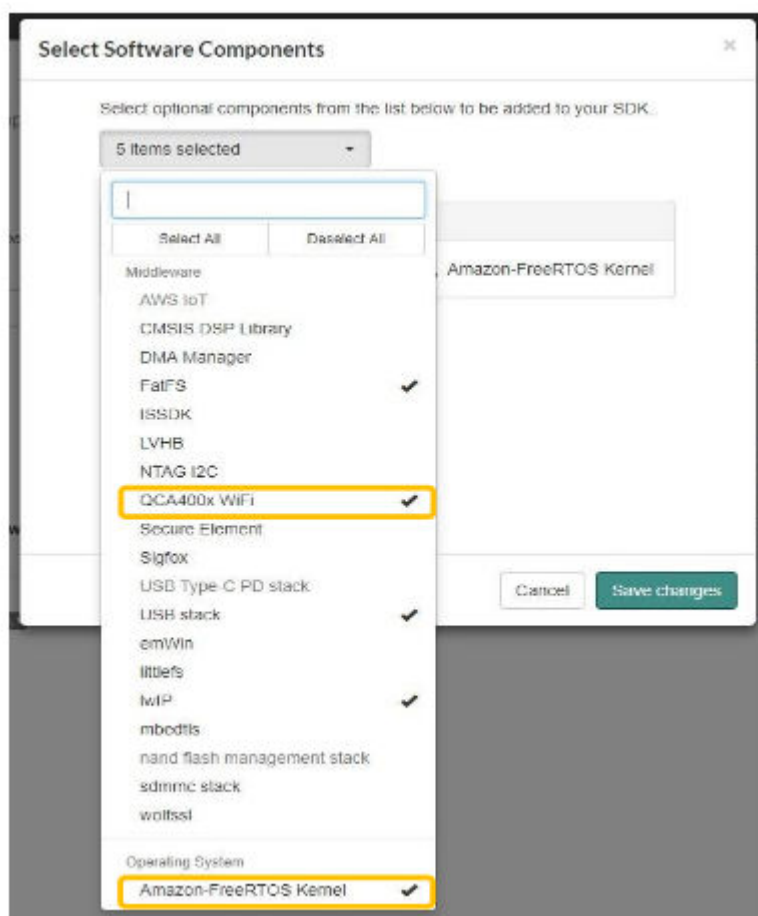

Figure 9. Additional components
6. Select all necessary software components for your project. For QCA400x, it is mandatory to select **Amazon- FreeRTOS Kernel** and **QCA400x WiFi**, as shown in Figure 9.